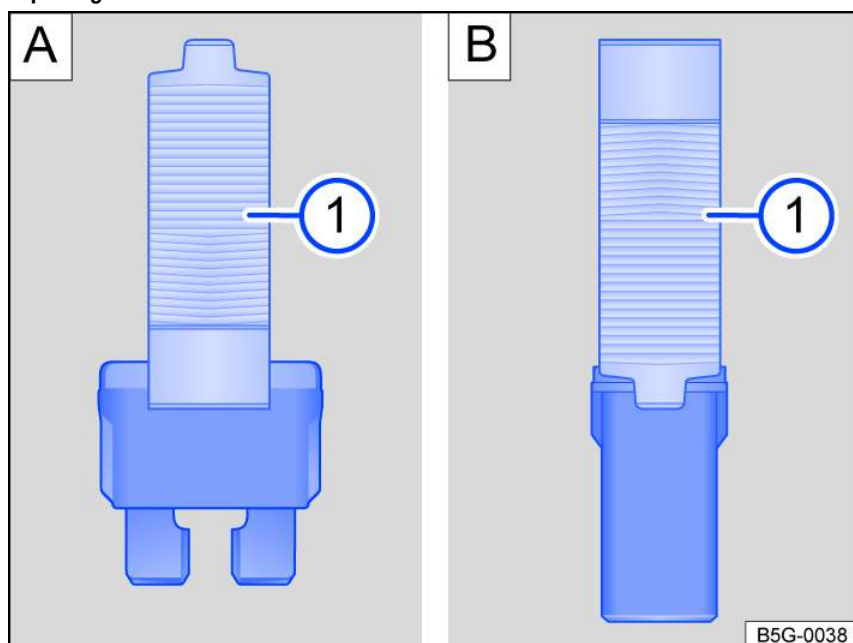

Fig. 141 Remove or install a fuse with the plastic pliers (general example).
① Plastic pliers.
1. Remove plastic tongs from either the fuse box or the cover of the fuse box *fig. 141* ①.
2. Depending on the design of the fuse, slide the appropriately sized clamp on the plastic pliers onto the fuse from above or from the side *fig. 141*.
4. If a fuse is blown, replace with a fuse with the *same* rating (same color and same label) and the *same* size ⇒ ①.